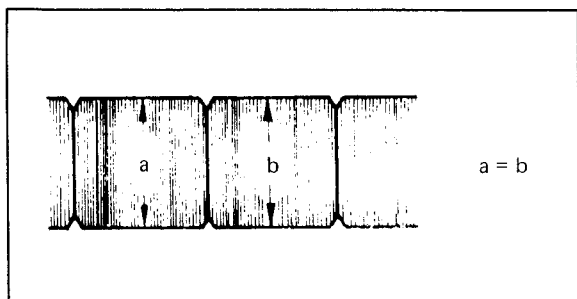

Fig. 6-21 FM channel balance
4. Adjust R48 (FM CH. BALANCE) so that the amplitude of (a) and (b) in Fig. 6-21 are equal to each other.